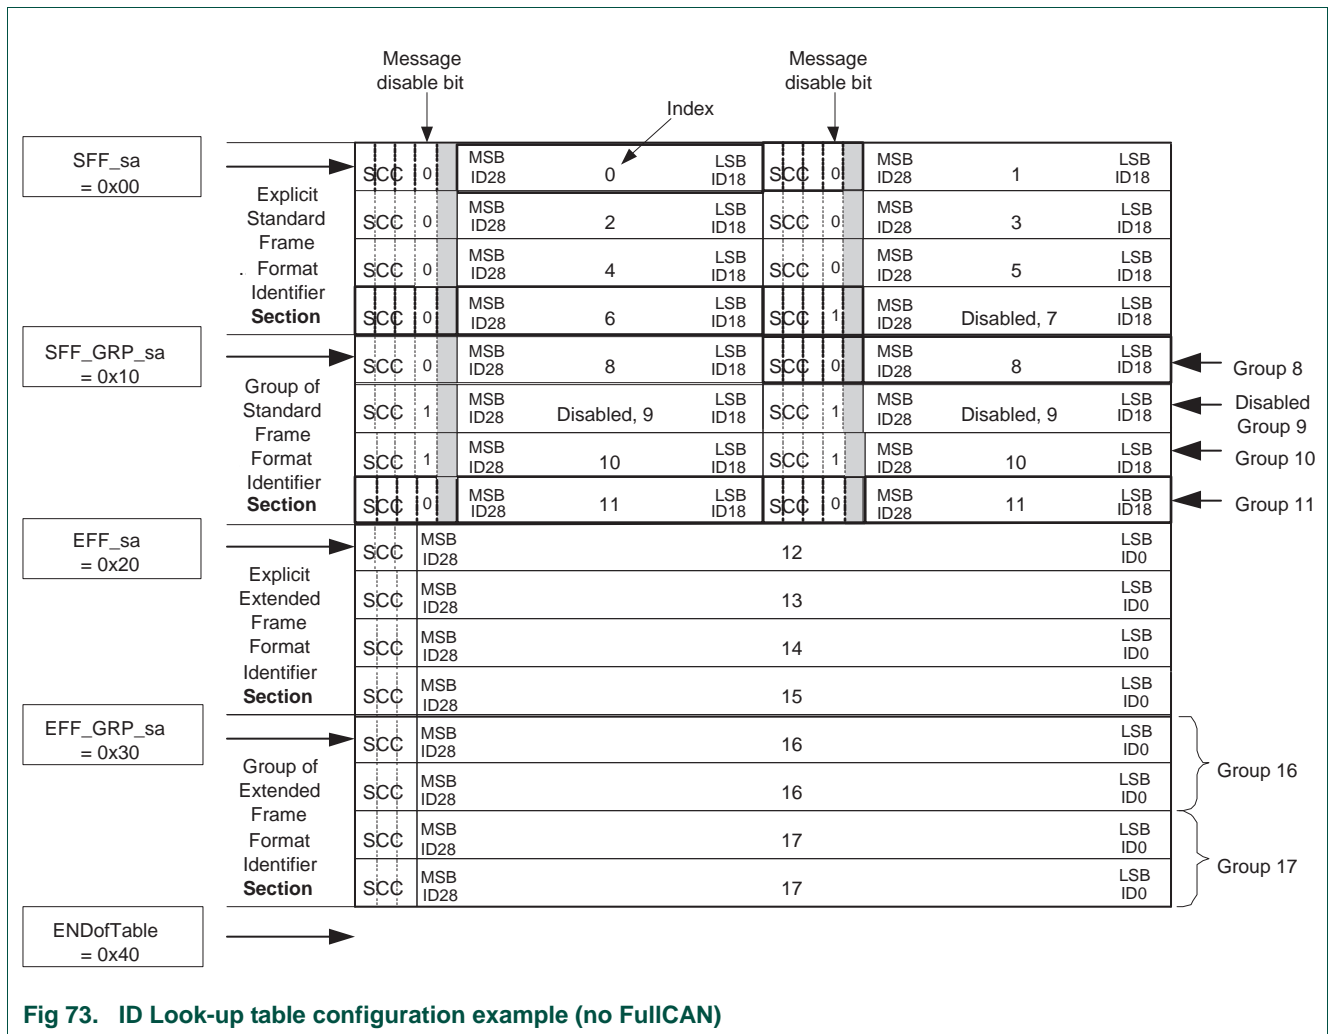

Fig 73. ID Look-up table configuration example (no FullCAN)
The Table below shows which sections and therefore which types of CAN identifiers are used and activated. The ID-Look-up Table configuration of this example is shown in Figure 73.
**Explicit extended frame format identifier section (29-bit CAN ID, Figure 73)**
**Group of extended frame format identifier section (29-bit CAN ID, Figure 73)**